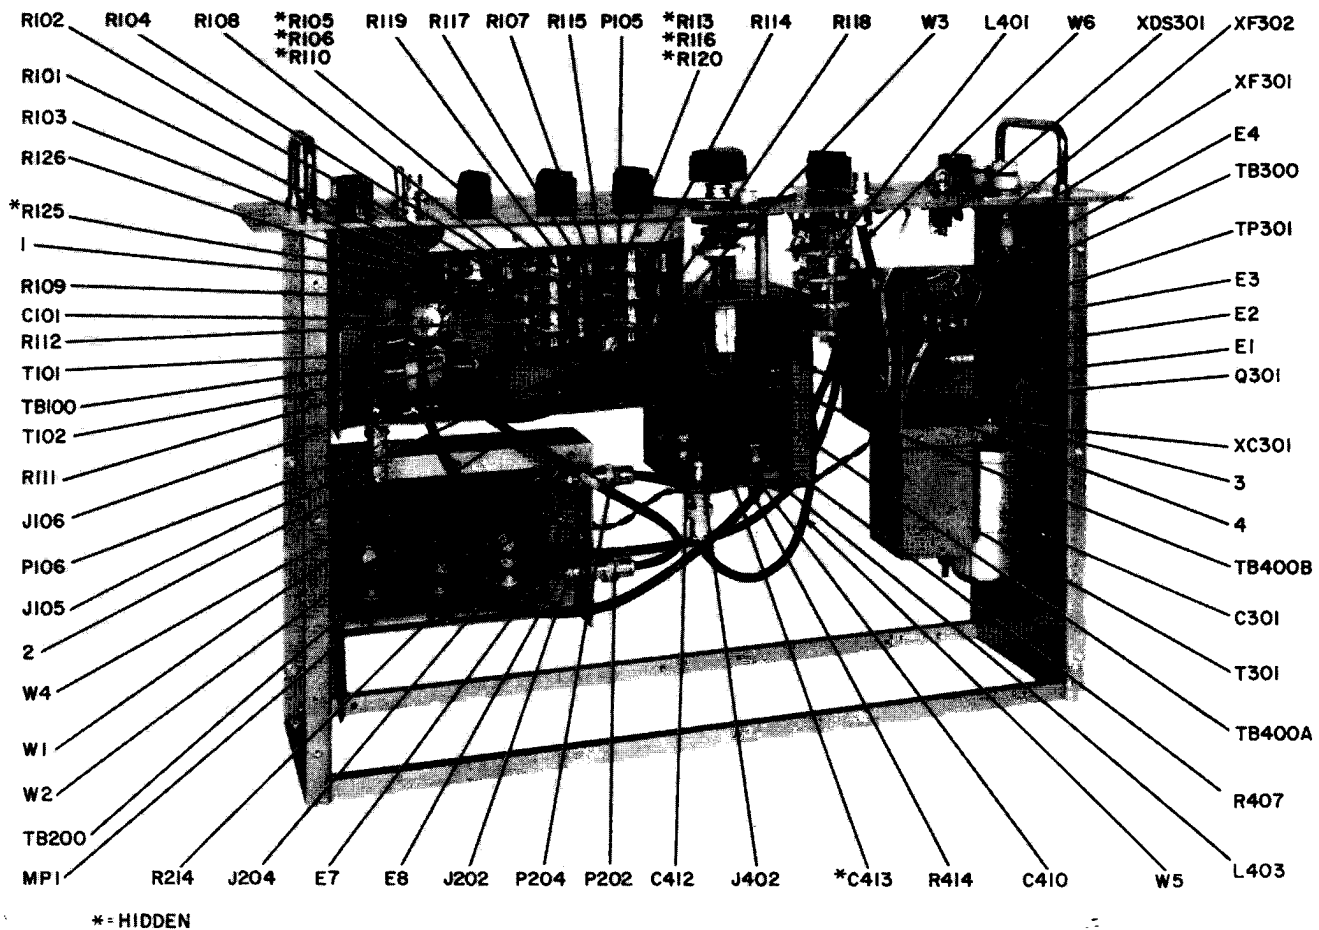

Figure 5-2. Electronic Frequency Converter, Bottom View
(2) Bottom view of Electronic Frequency Converter CV-2353/U, figure 5-2.